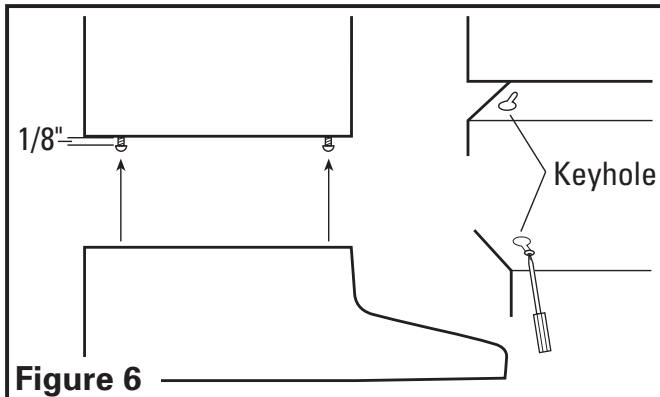

Figure 6
5. Install the 4 mounting screw at the previously marked locations. Leave approximately 1/8" clearance. Slide the hood in place through the keyhole slots and align the front of the hood so that it is flush with the front of the cabinets. Tighten all screws securely (**Figure 6**).